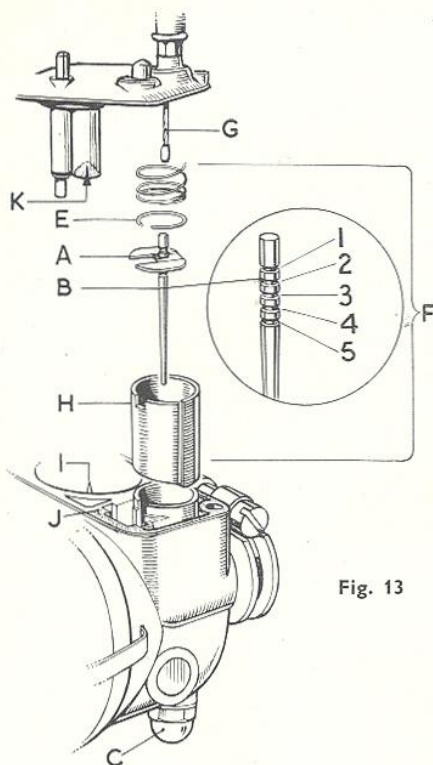
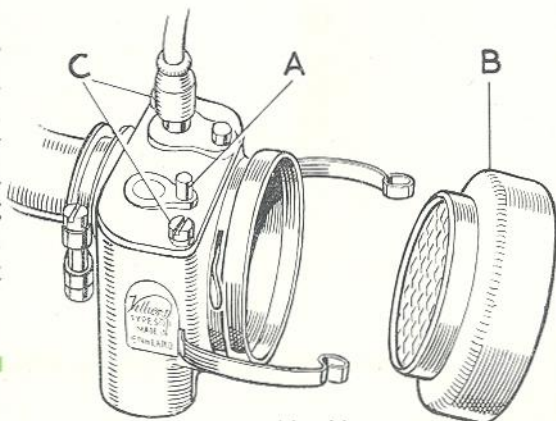

Fig. 13
Fig. 14
1. Ensure that the petrol tank and engine oil sump have been filled with the correct grade of their respective fuels as referred to on page 18 and that the air filter (B, Fig. 14) is oil wetted. (see page 30)
4. Air filter (B, Fig. 14), blocked by dirt. (See air filter, page 30.)
The carburetter setting is normal when the groove plate (A, Fig. 13) is in notch No. 2 of the taper needle (B, Fig. 13). The mixture will be enriched by using notch No. 3 or weakened by using notch No. 1. A finer setting
Needle (B, Fig. 13)
Undo two screws (C, Fig. 14) holding carburettor body cover in position and remove body cover, taking care not to damage the gasket (J, Fig. 13). The throttle slide assembly (F, Fig. 13) will come away with the cover. Now close throttle lever, and by pressing throttle inner cable (G, Fig. 13) into the throttle slide (H, Fig. 13), the cable anchorage at the bottom of the throttle slide is moved clear of its seating and can be pushed across into the release channel. The cable and coil spring can now be withdrawn. Now place the palm of the hand over the opening in the throttle slide and carefully push the taper needle through until the groove plate retaining spring ring (E, Fig. 13) has been removed safely into the palm of the hand. NOTE. Before removing taper needle
completely, check the position of groove plate (A, Fig. 13) in the needle, i.e., the notch in which it is located and also the way the groove plate has been fitted. (One side is dished). Reverse the above procedure to re-assemble the throttle slide assembly to the cover. To refit this assembly into the carburettor body ensure that the gasket is not damaged and is seated on the face of the cover. Then enter the throttle slide into its chamber making sure that the taper needle first engages the needle jet and also that the keyway in the slide engages the key in the chamber. Care should now be taken to ensure that the fuel needle (I, Fig. 13) in the float chamber locates in the tapered hole of the cover (K, Fig. 13) before tightening down the screws which secure the cover to the body. Failure to do so will bend the needle and flooding of the carburettor will result.
This can be detached for cleaning after removing the the domed nut (C, Fig. 13). Cleaning should be done by compressed air *and not by the use of wire* as this is likely to alter the size of hole and cause trouble with carburation.